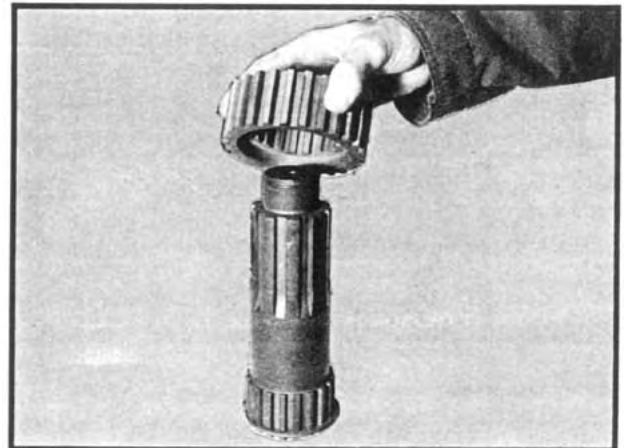

Fig 39
2. Slide the clutch gear over the shaft such that the counterbore in the gear fits over the snap ring. See Figure 39.